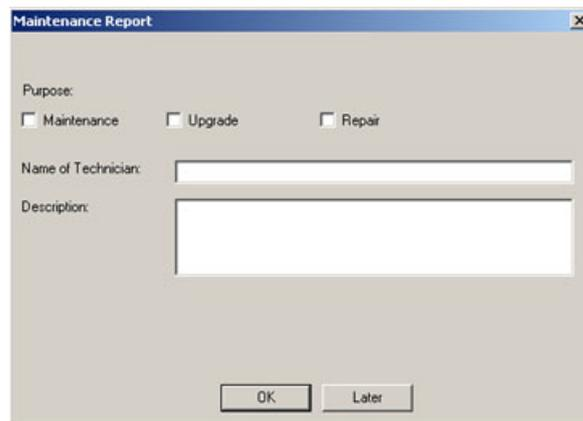

Figure 4-41 Maintenance Report
**NOTE:** After Hardware or Software modifications normally the “Maintenance Report” message box (Figure 4-41) appears automatically on the screen.